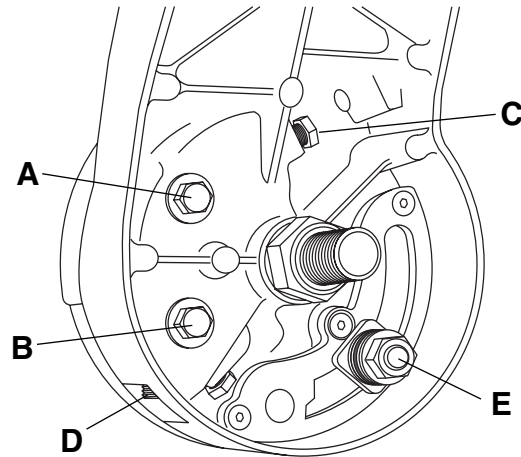

Figure 2. Calibrating Blade at 0 degrees (90° to the table)
3. Loosen bolt heads "A" and "B" with 10mm open-end wrench at least one full turn (Figure 2).
4. Place 4mm Allen wrench bit onto multi-purpose tool and loosen setscrew "D" at least 3 full turns (Figure 2).